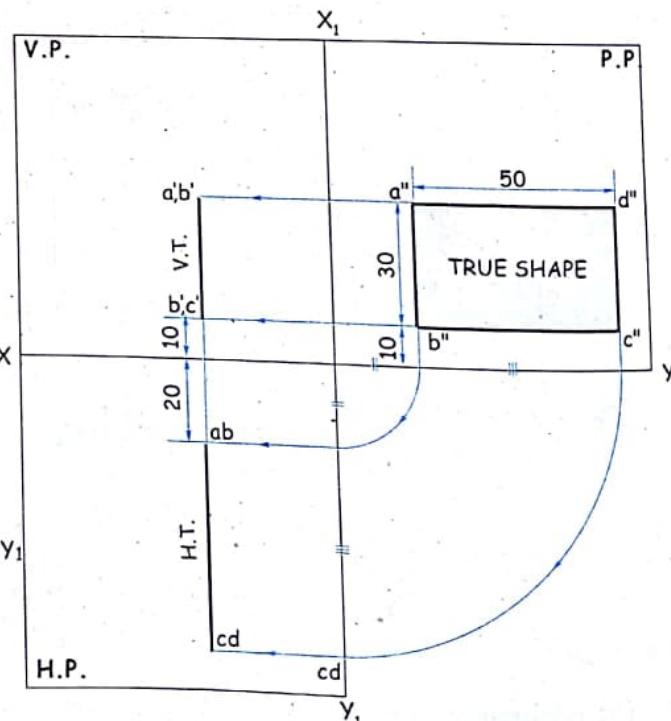

FIG. 9.3 (b)
- The required position of a plane $ABCD$ is shown in figure 9.3 (a) with its projections, i.e. F.V. ($a'b'c'd'$), T.V. ($abcd$) and S.V. ($a''b''c''d''$).